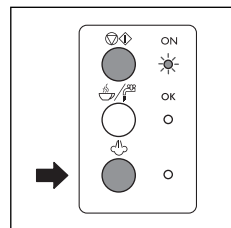
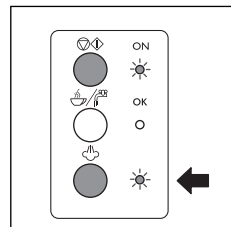

fig. 19
fig. 20
2. Press the steam button (fig. 19) and wait for the steam indicator light to come on (fig. 20). The OK indicator light indicates that the boiler has reached the ideal temperature for steam production.